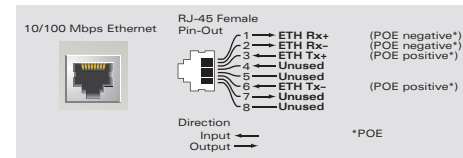

Figure 2: Alcatel OmniAccess OAW-AP41 FE Port
The 10/100 Mbps Ethernet (FE) port is located on the right-hand side of the Alcatel OmniAccess OAW-AP41 and has an RJ-45 female connector. The port pin-outs are shown in Figure 2: